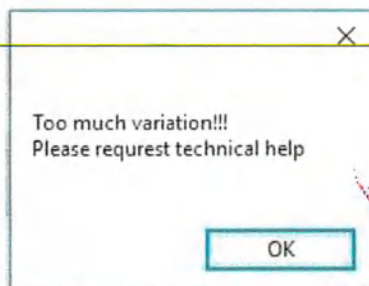

Figure 57
9.5.6.14 If the volume is out of range, a technical assistance message will be displayed below [Figure 57].